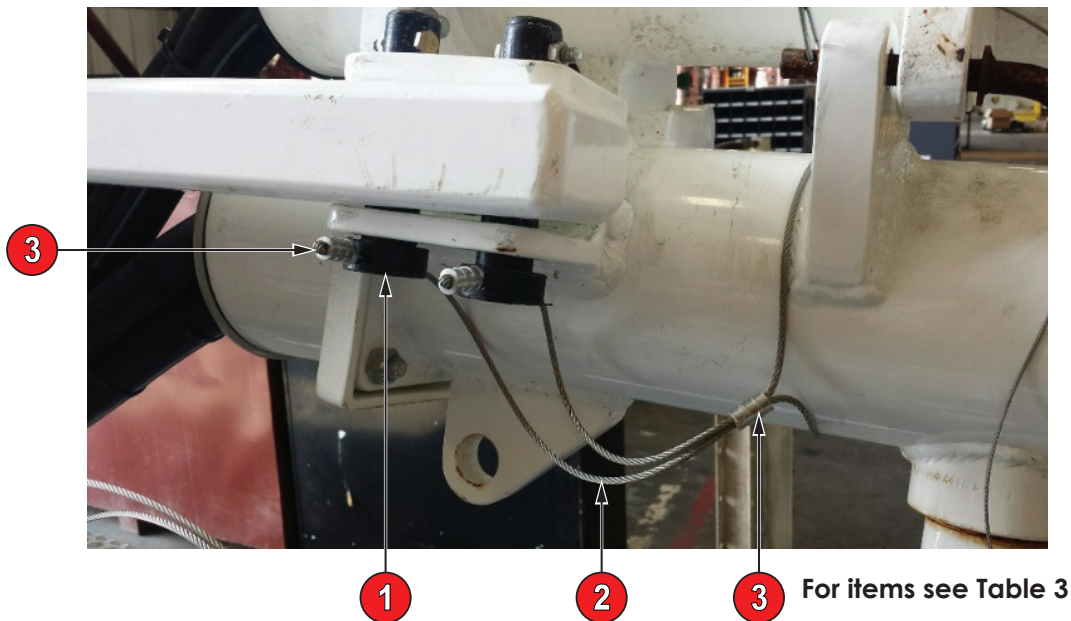

Figure 4: Electrical Service Loop
Install wire rope and ferrules as shown in Figure 4. When installing the safety restraint there should be enough slack to remove and install the pins. See Table 3 for information about part numbers and Figure 4 for routing the wire rope.
**Note:** Cut 30 inches to secure two pins (see Figure 4). This length will allow pins to be installed and removed any time without cutting the wire rope.